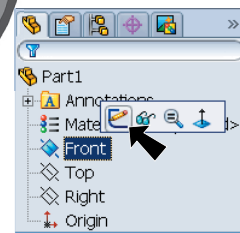

Fig. 1
Step 2. Click **Front** (plane) in the Feature Manager and click **Sketch** from the Content toolbar, **Fig. 1**.